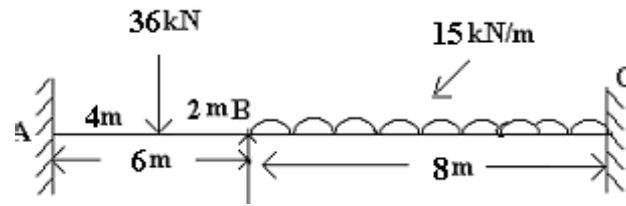

Figure 2:
6. Using moment distribution method analyse the two span continuous beam loaded as shown in Figure 2 if the moment of inertia of $AB = I$ while that of $BC = 2I$. The ends A and C are simply- supported. Sketch the B.M. and S.F. diagram. [16]